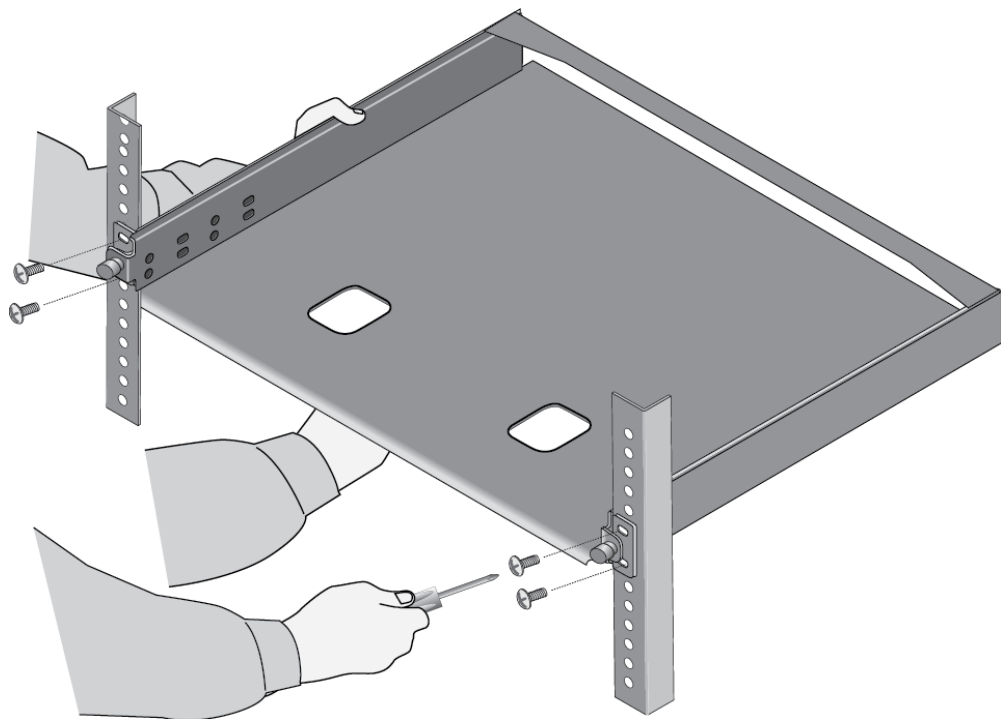

Figure 28. Installing the AT-RKMT-J15 Bracket in the Equipment Rack
1. Have another person hold the AT-RKMT-J15 Bracket at the desired location in the equipment rack while you secure it using four standard equipment rack screws (not provided). Refer to Figure 28.